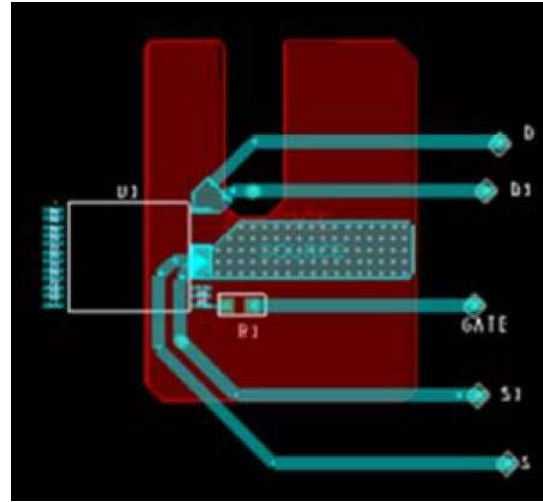

Figure 24. Thermal Resistance Test Conditions for PowiGaN Devices (INN3678C, INN3679C and INN3670C).
Testing performed on custom thermal test PCB as shown in Figure 24. The test board consists of 2 layers of 2 oz. Cu with the InSOP package mounted to the top surface and connected to a bottom layer Cu heat sinking area of 550 mm2.
- Please see Figure 24.